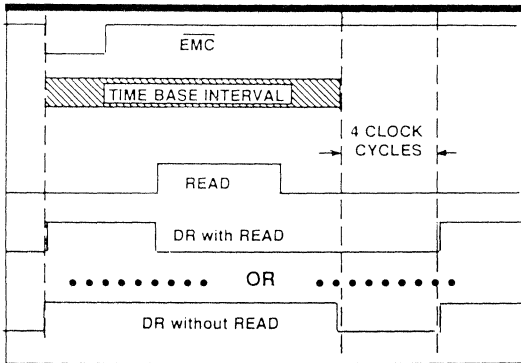

Figure 5. DATA RESET (DR) Timing
STATUS BLOCK — DR — Data Ready — Provides a logical “1” that indicates that data has been latched and is ready to be read. On POR or EMC, DR becomes high and remains high until either, (1) a READ operation is performed, or (2) the time base interval is completed. On initiation of the READ operation, DR goes low and remains low until 4 clock cycles after the TIME BASE ends. If there is no READ operation, DR goes low at the end of the TIME BASE interval, and returns high 4 clock cycles after the TIME BASE interval is complete (see Figure 5).